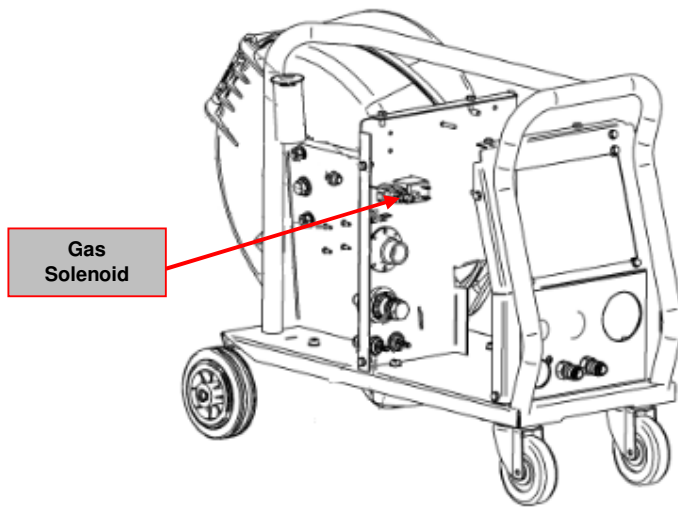

Figure 2 – Gas solenoid location
3. Located the Gas Solenoid. See **Figure 2**.